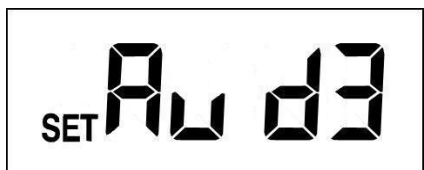

FIGURE 22
- e. After recording, the LCD returns back to warning sound 3 or 4 (FIGURE 22 or 23).